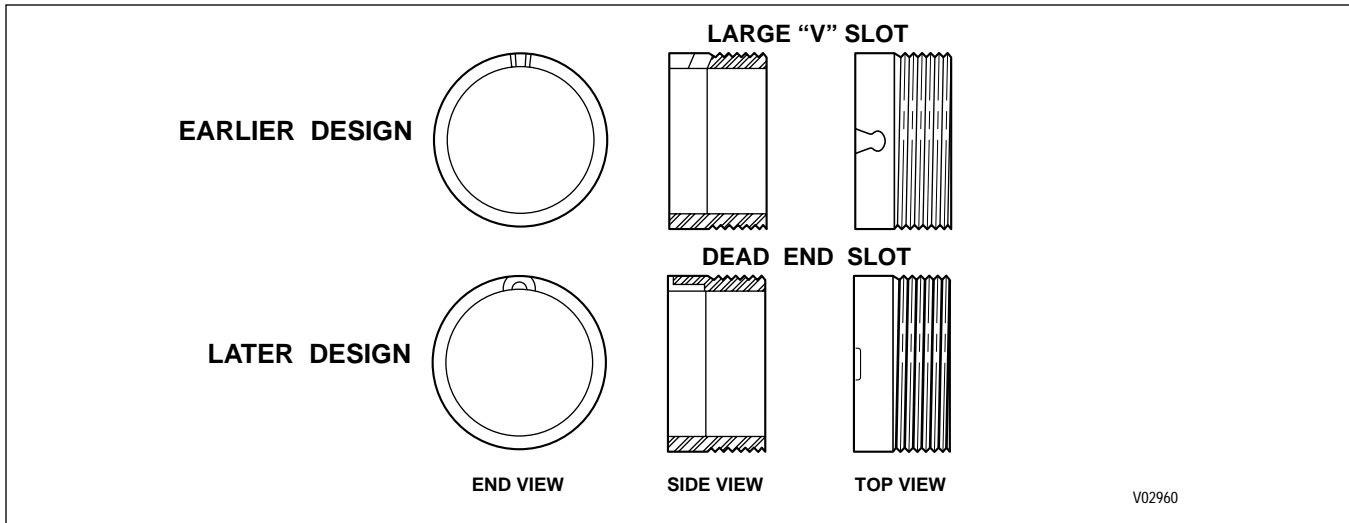

Figure 6-55. Governor Drive Gear Configurations
(5) If the transmission being rebuilt has a governor drive gear with a large V slot (Figure 6-55), install a spring pin 50 (Foldout 10,A) into the output shaft to a height of 0.150–0.170 inch (3.81–4.31 mm). If the transmission being rebuilt has a governor drive gear with a dead-end slot (Figure 6-55), install a spring pin 50 (Foldout 10,A) to a height of 0.066–0.076 inch (1.68–1.93 mm).
(6) Install rear planetary sun gear 31 onto main shaft 4, smaller end first. Secure the sun gear to the main shaft with spiral retaining ring 34.
(7) Install center ring gear 30, concave side forward, onto the rear sun gear and secure it with snapping 29.
(8) Install rear planetary carrier assembly 36 into planetary carrier connecting drum 28 aligning the broad groove in the drum OD away from the carrier. Secure the carrier with snapping 43.